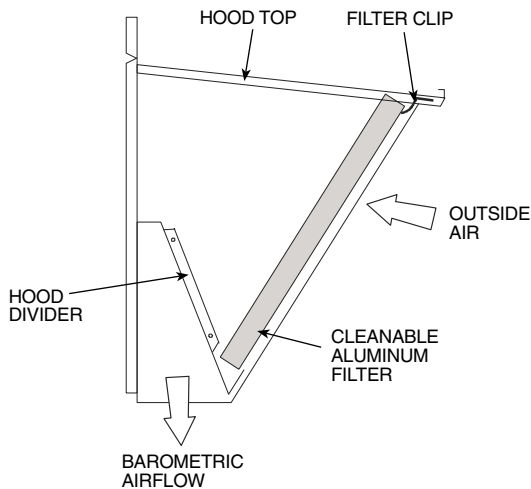

Fig. 5 — Filter Installation (3 to 12¹/₂ Ton Units)
6. Open the filter clips which are located underneath the hood top. Insert the aluminum filter into the bottom filter rack (hood divider). Push the filter into position past the open filter clips. Close the filter clips to lock the filter into place. See Fig. 5.